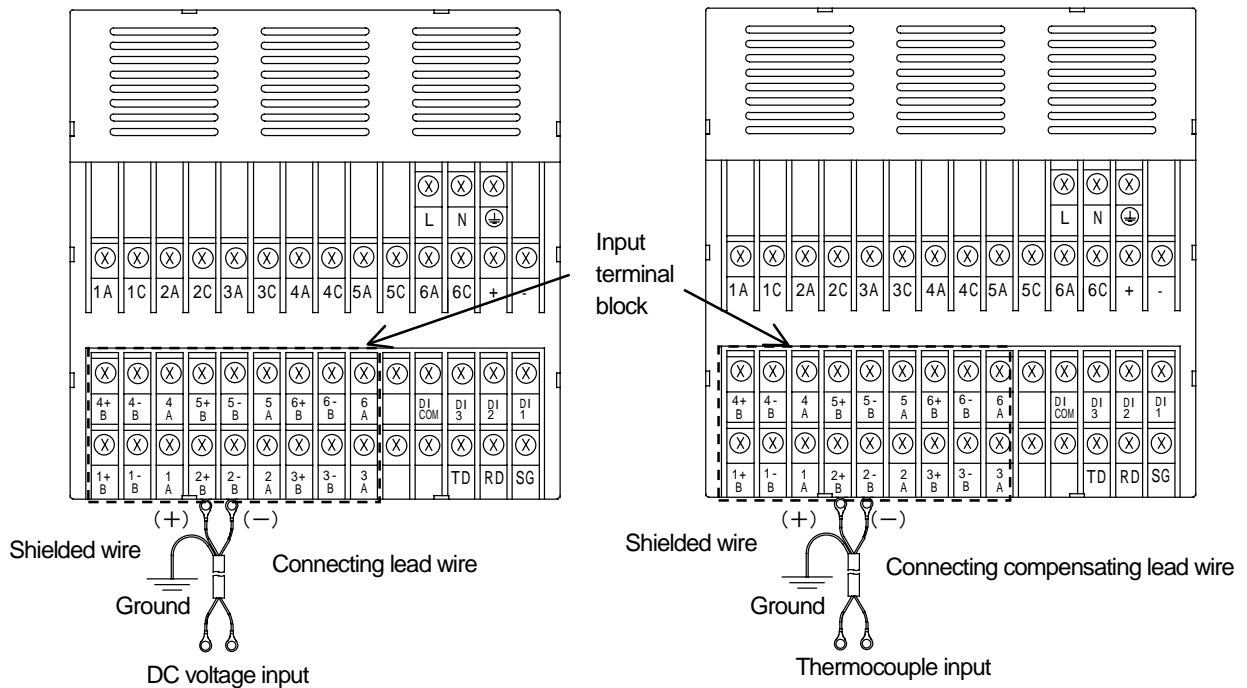
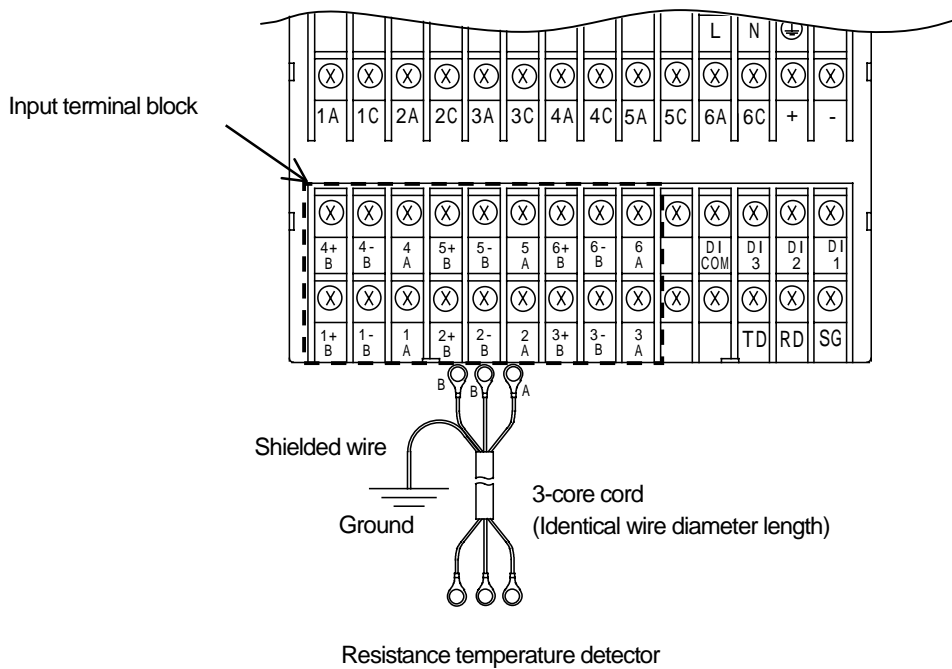
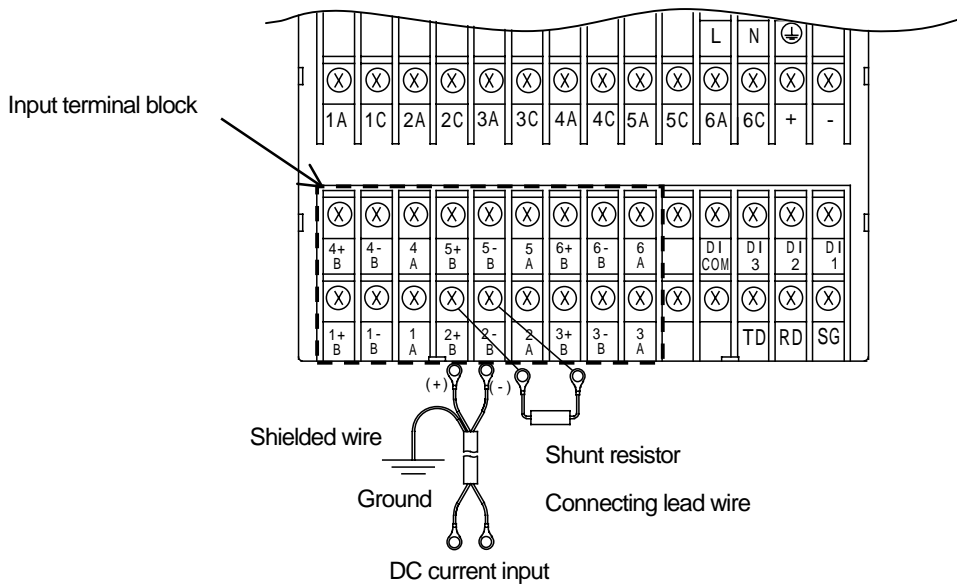

Fig. 4.3 Input Wiring (For mV, V and Thermocouple inputs)
Fig. 4.4 Input Wiring (For Resistance temperature detector)
Fig. 4.5 Input Wiring (For mA input)
- 2) Wire the input lines refer to Fig. 4.3(Page 18), Fig. 4.4 and Fig. 4.5.(Page 19)